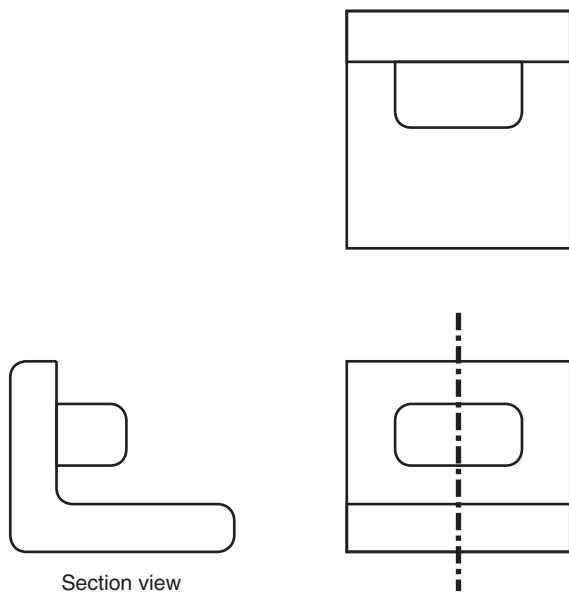

Figure 3-19 Sketch the section view on a piece of paper.
10. On a separate piece of paper, sketch the section view as it would appear in the indicated space on the drawing in Fig. 3-19. (*Hint:* See Problem 11 for more information.) (LO 3-3)
11. The arrowheads have been omitted from the cutting plane line in Fig. 3-19. If you were to add them, would they correctly point to the left on the page or to the right? Explain. (LOs 3-2 and 3-3)